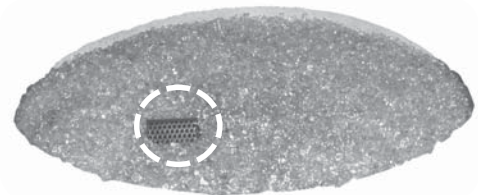

Fig. 20-2
1. Pour the glass/gems out of the bag(s), evenly covering the lava but not the screen (Fig. 20-2).